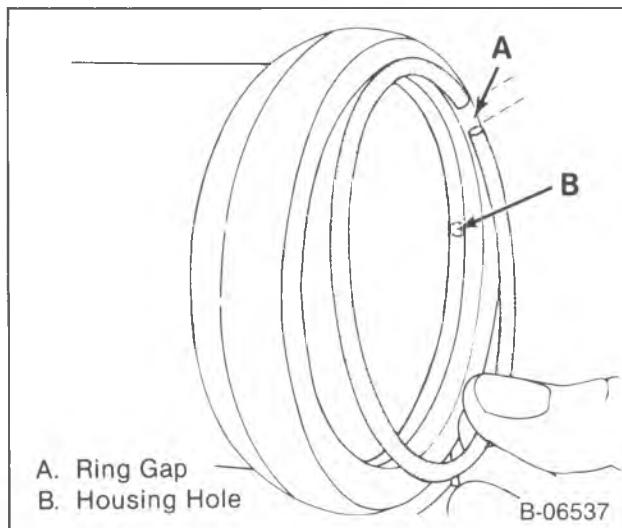

Figure 23—Installing the Retaining Ring
- Nut (227) to 27 N·m (20 ft. lbs.).
5. Re-check the preload after tightening the nut (227).
8. Plug (215), seal (216), ring (217), and seal (218).
9. Plug (219) and retaining ring (220) (figure 23).